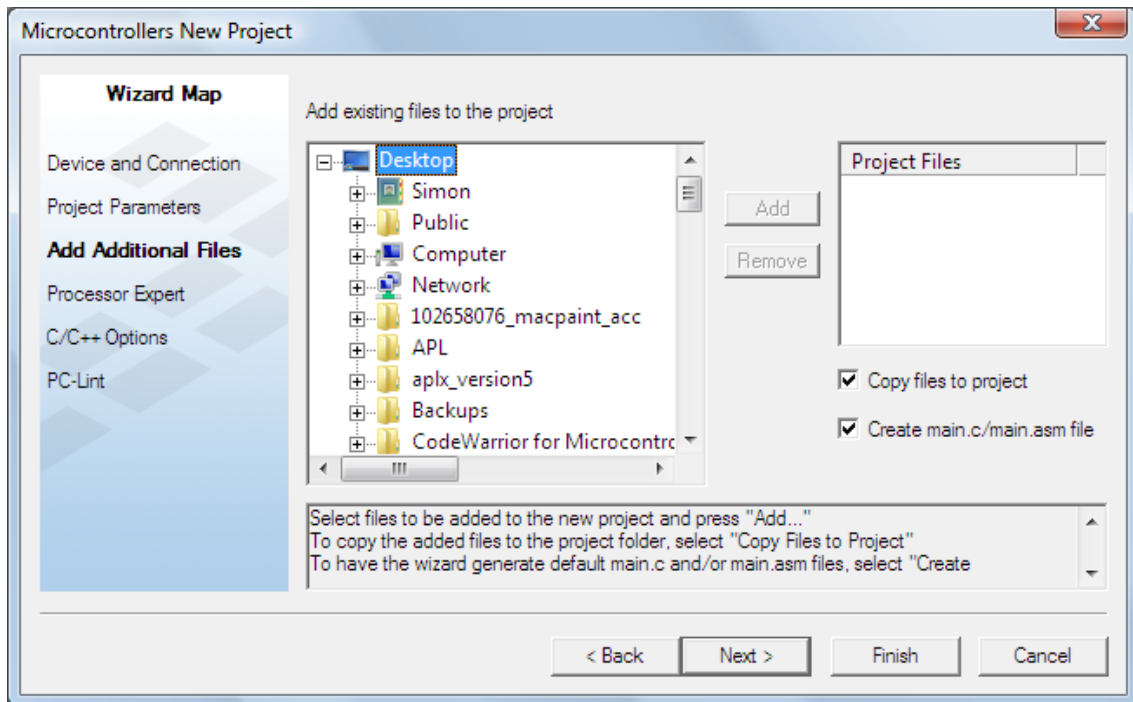

Figure 32: Don't add any existing files
4) In the next step (Figure 32) you have the option to add existing files to the new project. We will not add any for this demonstration.